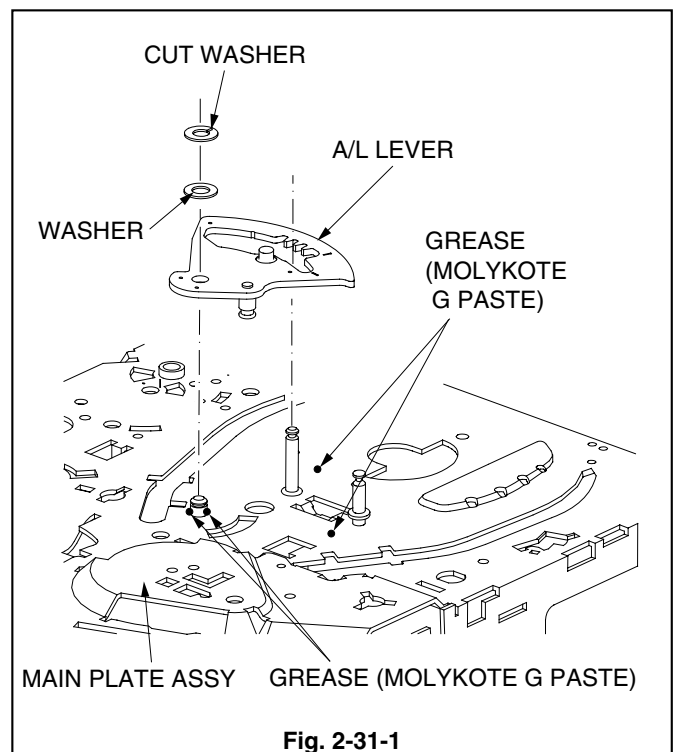

Fig. 2-31-1
1. Remove the CUT WASHER and WASHER shown in the Fig. 2-31-1. Then, remove the A/L LEVER.
1. Apply GREASE (MOLYKOTE G PASTE) [859D055O50] to the parts on the MAIN PLATE ASSY specified in the Fig. 2-31-1.